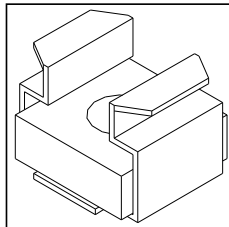

Figure 9: Square Bolt.
There are two (2) leveling legs and they can be found inside the manual bag. Each leveling leg consists of a long bolt, a hex nut, a washer, and a square bolt with clip (see Figure 9). For installation of the leveling legs the unit should be on its back and a  $\frac{1}{2}$ " wrench is required for adjustments.